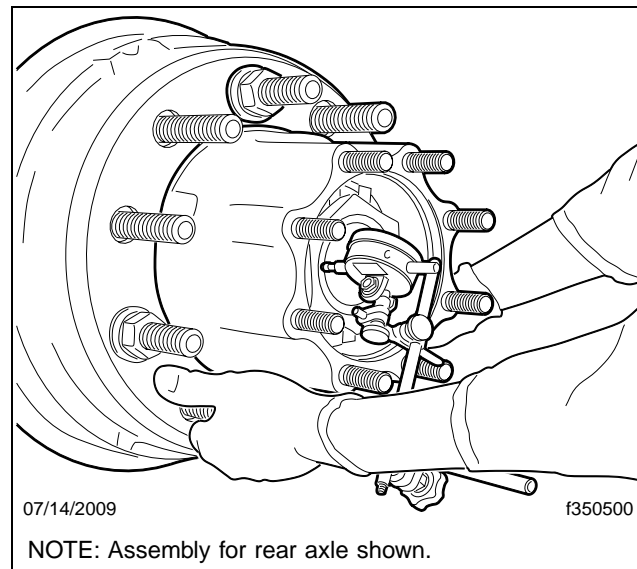

Fig. 23, Pulling the Hub Outward to Measure End Play
- 7.6 Pull the hub and drum outward while oscillating it as before. Maintain pressure on the hub, and note the outboard extent of the end play. See Fig. 23.